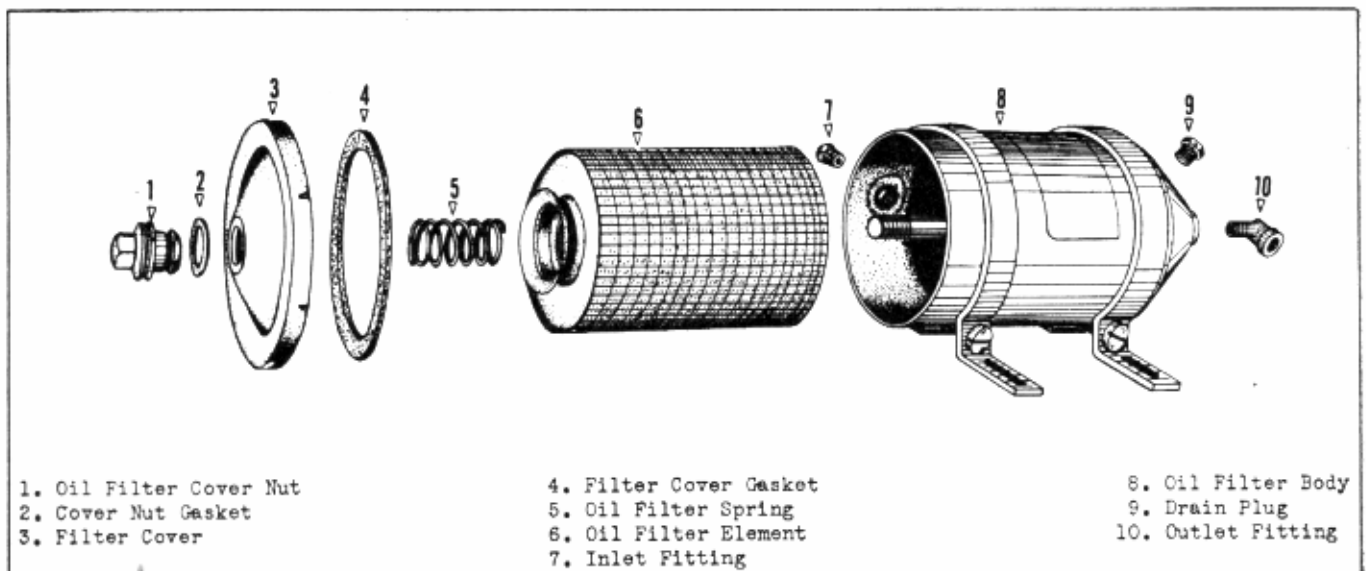

Fig. 52—Oil Filter Parts
**NOTE**—Care must be used not to get these gaskets mixed. The gasket indicated by the number "1" in Fig. 52 must be assembled between the valve and the block and gasket numbered "2" between the valve and cover.
The oiling system of these vehicles are equipped with an oil filter (Fig. 52) as a further means of keeping the oil being pumped to the bearing surfaces of the engine from becoming contaminated.